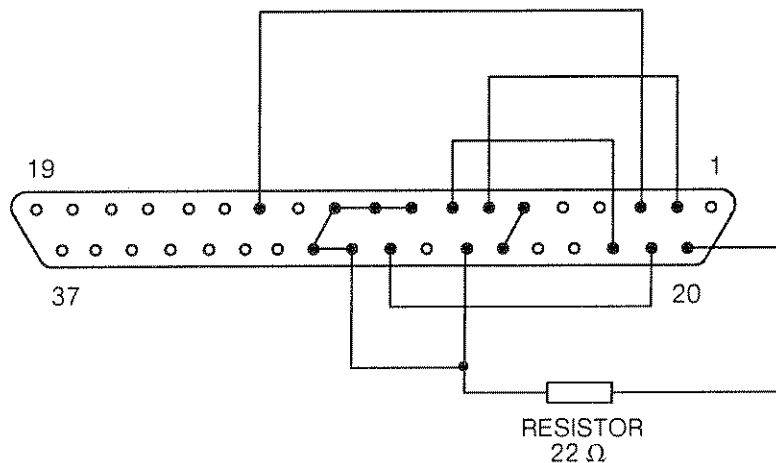

Fig. 5-12 Terminator connections for parallel control port test
- (1) Connect the GPIB controller to the public GPIB socket on the rear of the Adapter.
- (2) Enter the GPIB INTERFACE MENU. Set the PUBLIC GPIB ADDRESS to 06 and the GPIB function to TALKER/LISTENER.
- (3) Prepare a terminator as shown in Fig. 5-12. This is to be used as instructed on the controller display during the program. The terminator should not be used until asked for as the first checks would fail.